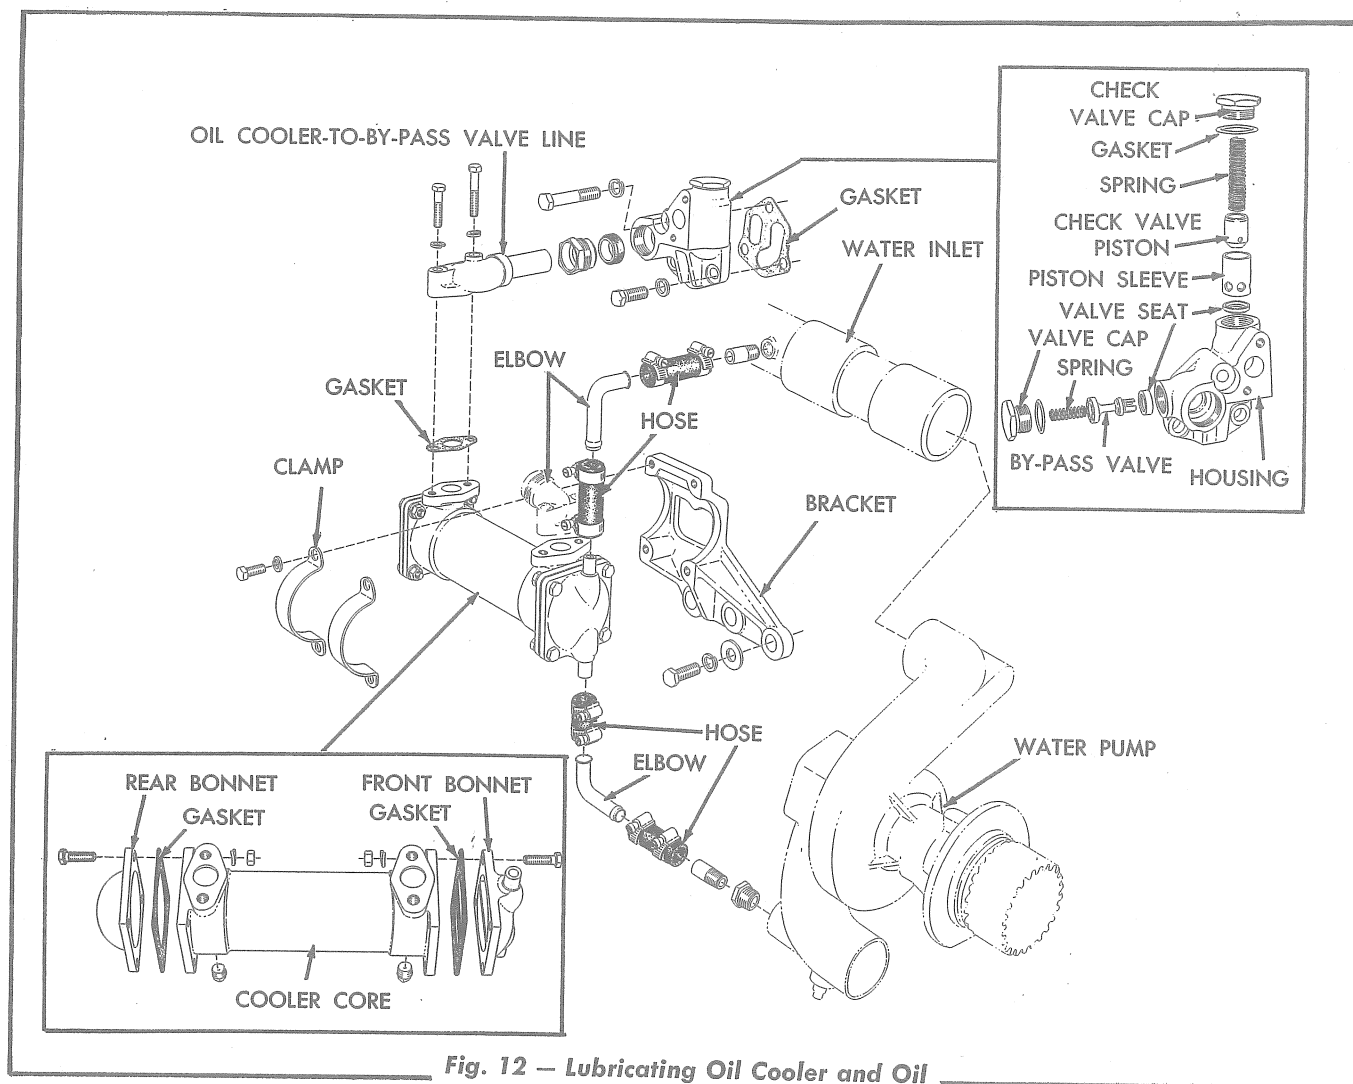

Fig. 12 — Lubricating Oil Cooler and Oil By-Pass Valve Details (Tractors Prior to Serial No. 4001)
Remove the capscrews and lockwashers or capscrews, lockwashers, and nuts attaching the bonnets to the oil cooler core and remove the bonnets and gaskets. (Figs. 12 and 13).
2. Cement a new bonnet gasket to the other face of the oil cooler. Coat the outer side of the gasket with gasket cement, then place the other bonnet in position on the oil cooler and secure with capscrews and lockwashers or capscrews, lockwashers, and nuts. **NOTE:** Refer to Figs. 12 and 13 and make certain the water inlet and outlet openings in the
1. Tractors prior to Serial No. 4001 (Fig. 12).